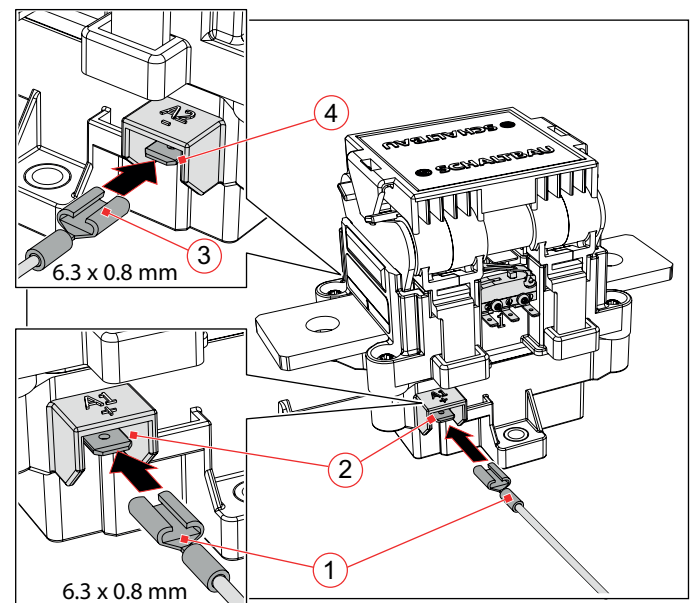

Fig. 17: Creating coil connections (the figure shows C360A, the procedure is identical for C360K and C360S)
- ▶ Move and route the control wires and receptacles only in the direction of plugging, see **Fig. 17**.
- ▶ Plug the prepared control wires with the receptacles (1/3) to both coil terminals A1+ (2) and A2- (4).